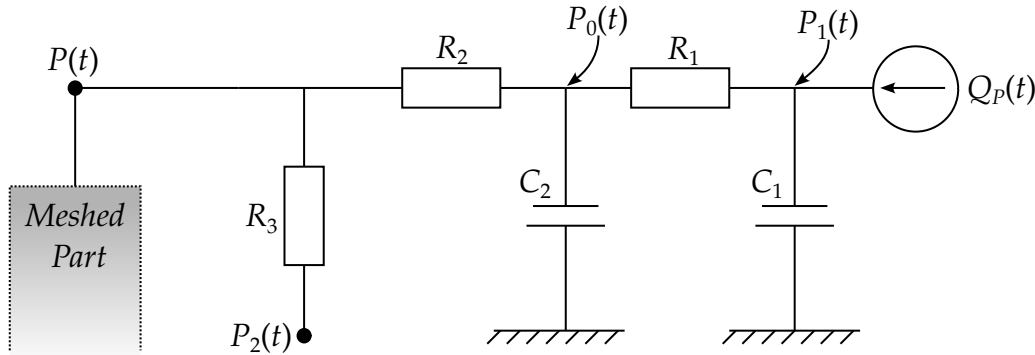

Figure 7-4. WTYPE = 9 and 10 circuit
QPLCID	ID of load curve describing the behavior of $Q_p(t)$ as a function of time when applicable. See Remark 4 and Figure 7-4 .
4. **WTYPE = 9 and 10.** See Figure 7-4 for a diagram of the circuit. The equation solved at the boundary is: